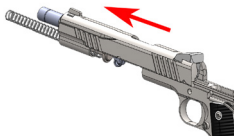

Figure 31
- Grasp the top of the slide and move it forward off of the frame rails – Figure 31.